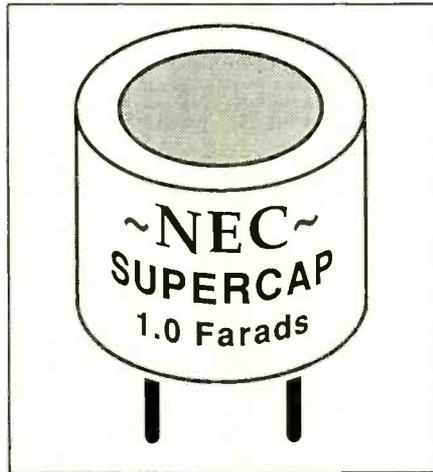

Fig. 1. A 1.0-Farad capacitor!
**How Big** is a one-Farad capacitor? Would you believe less than a cubic inch? Conventional wisdom and poorly done cartoons notwithstanding, a new capacitor technology is now available that crams incredible capacitance values into very small volumes. As Fig. 1 shows, these are called double-layer capacitors. They are both reasonably priced and available from distributor stock. For instance, a 1.0-Farad, 5-volt *NEC* # FZ0H105Z is available from *Mouser Electronics* for \$4.59 each (part 551-1.0Z05).
If there's one thing I can't resist, it's a good hack, especially if it lies well beyond the far side of "disgustingly elegant." Check the capacitor lettering in Fig. 1. Note that we not only have isometric lettering, but the lettering is also correctly wrapped around a cylinder! This was quickly and easily "drawn" with the stock and standard Apple Writer word processor, as were *all* parts of *all* figures in this column. Oh, yes, I did add a short little custom text routing of my own that I'll be happy to share with you. The same routine also lets you set text in a helix or an inwardly closing spiral.